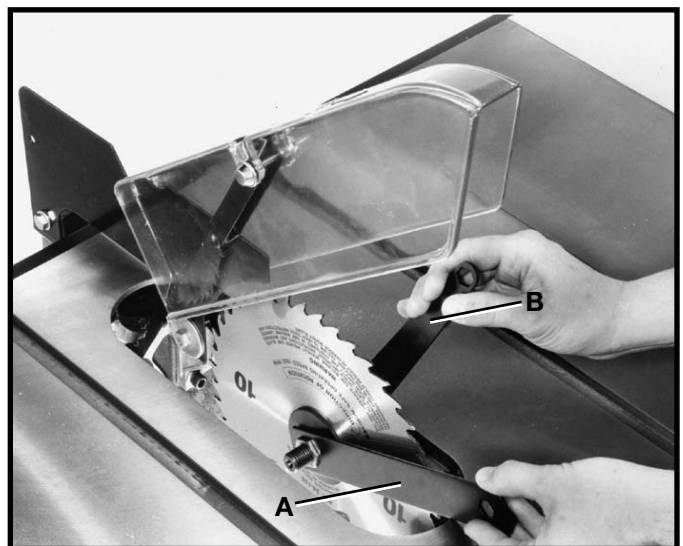

Fig. 107
2. **NOTE:** Two 7/8" wrenches are supplied with the saw for changing the saw blade: a box end wrench (A) Fig. 107, and open end wrench (B). Use only 10" saw blades rated for 3000 RPM or higher with 5/8" arbor holes.